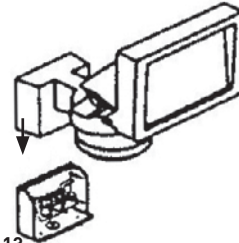
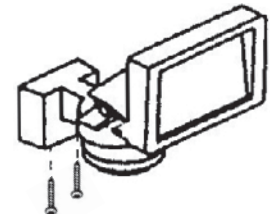

Fig. 13
Fig. 14
g. Insert the sensor light onto the backplate (See Fig. 13). Then fix with the two small c/sk head screws supplied. (See Fig. 14).